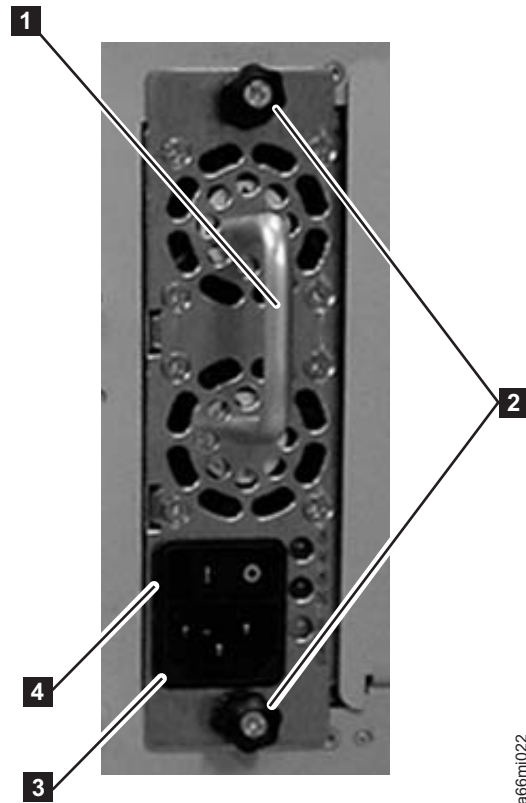

Figure 12-32. Power Supply
Attention: First, disconnect the power cord from the power source. Then, disconnect the power cord from the power supply receptacle (**3** in Figure 12-32).
3. Loosen the two thumb screws (**2** in Figure 12-32) by turning them counterclockwise.
4. Grasp the handle (**1** in Figure 12-32) and slowly pull the power supply toward you, while supporting it from underneath.
1. Grasp the power supply handle (**1** in Figure 12-32 on page 12-35) while supporting it from underneath. Then, line up the power supply with the guides in the slot, and carefully push the power supply into the library.
2. Tighten the two thumb screws (**2** in Figure 12-32 on page 12-35) on the power supply by turning them clockwise.
Attention: First, connect the power cord to the power supply component (**3** in Figure 12-32 on page 12-35). Then, connect the power cord to the power source.
4. Toggle the power switch (**4** in Figure 12-32 on page 12-35) on the power supply to the I (ON) position.
2. Toggle the redundant power supply power switch (**4** in Figure 12-32 on page 12-35) to the O (OFF) position.
3. Unplug the power cord from the redundant power supply receptacle (**3** in Figure 12-32 on page 12-35).
4. Loosen the two thumb screws (**2** in Figure 12-32 on page 12-35) by turning them counterclockwise.
5. Grasp the handle (**1** in Figure 12-32 on page 12-35) and pull the power supply toward you. Support the component from underneath with your other hand.
3. Insert the redundant power supply by gripping the handle (**1** in Figure 12-32 on page 12-35), sliding it into the guide slots, and pushing it into the empty slot.
4. Tighten the two thumb screws (**2** in Figure 12-32 on page 12-35) that hold the redundant power supply in place.
5. Connect the power cord to the power supply (**3** in Figure 12-32 on page 12-35) and to its source.
6. Turn ON power to the redundant power supply, using the switch (**4** in Figure 12-32 on page 12-35) on the power supply.